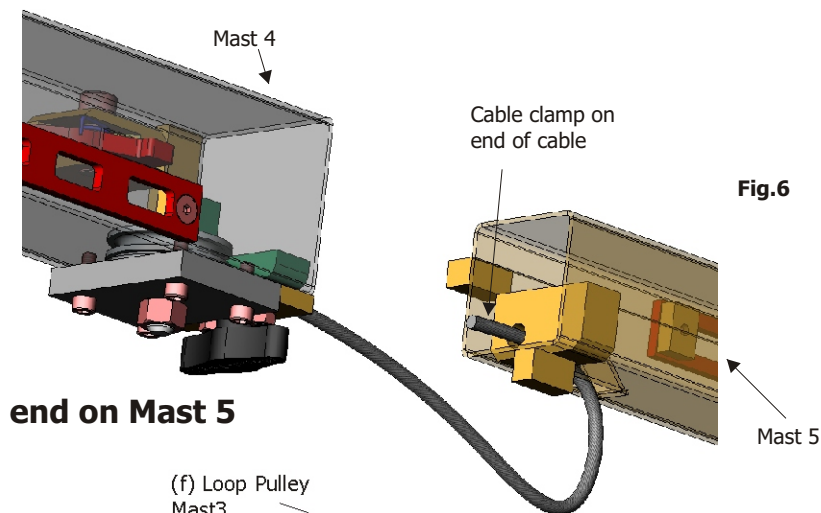

Fig.6
11. Attach the top end cable clamp inside Mast 5 securely as shown in Fig.6 (on AlpTek5500 this is Mast 4)